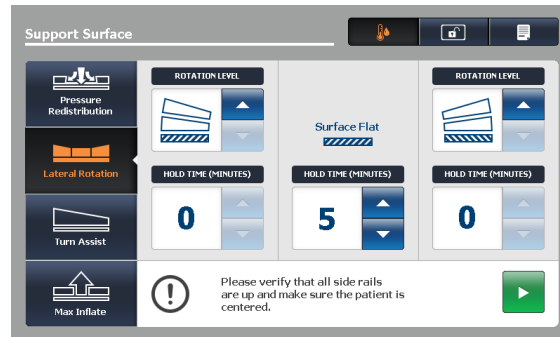

Figure 47: Lateral rotation screen
2. Adjust the Lateral Rotation selections as needed (Figure 47 on page 57):